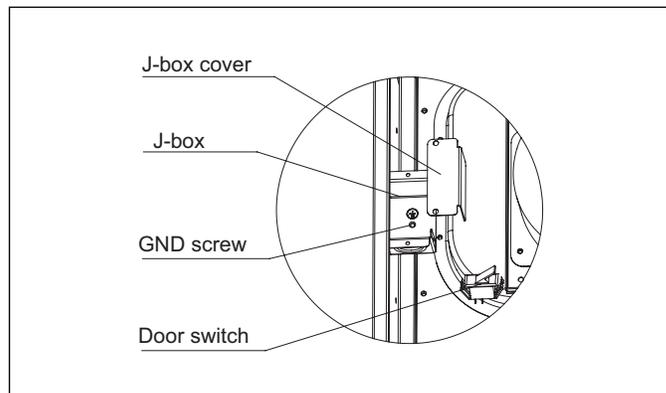

Figure 47 J-Box
1. Remove and save two screws holding J-Box (See Figure 47).
See Figure 47 on previous page.
4. Remove and save two screws holding J-Box. (See Figure 47.)